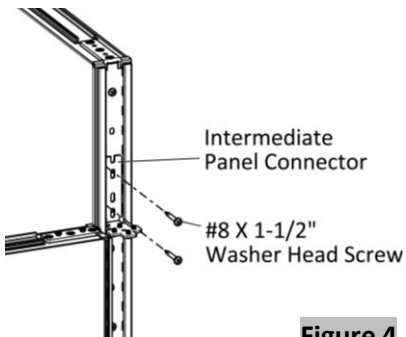

Figure 4
- Drive two #8 X 1-1/2" Washer Head Screws through the holes in the intermediate panel connector into the taller panel, (Figure 4).